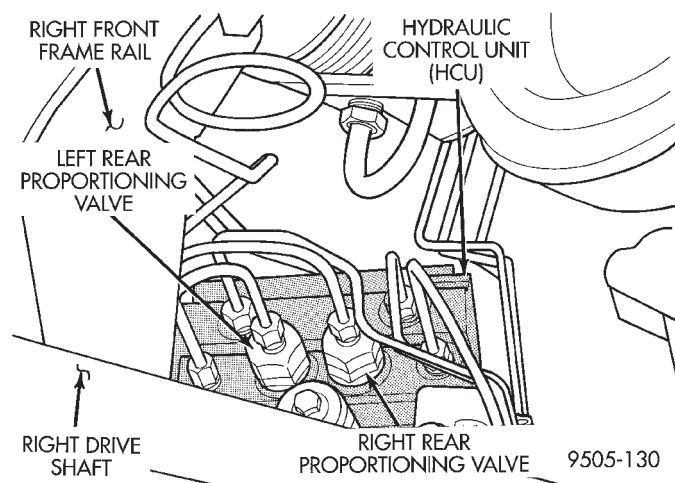

Fig. 27 Proportioning Valve Locations On HCU
One proportioning valve controls the right rear brake, and the other proportioning valve controls the left rear brake (Fig. 27). Therefore, a road test to determine which rear brake slides first is essential.
(1) After road testing vehicle to determine which rear wheel exhibits premature rear wheel skid, refer to (Fig. 27) to determine which proportioning valve needs to be tested.
(2) Remove hydraulic brake line (Fig. 27) from proportioning valve controlling the rear wheel of the vehicle which has premature wheel skid.
(3) Then remove proportioning valve from that outlet port of the HCU.